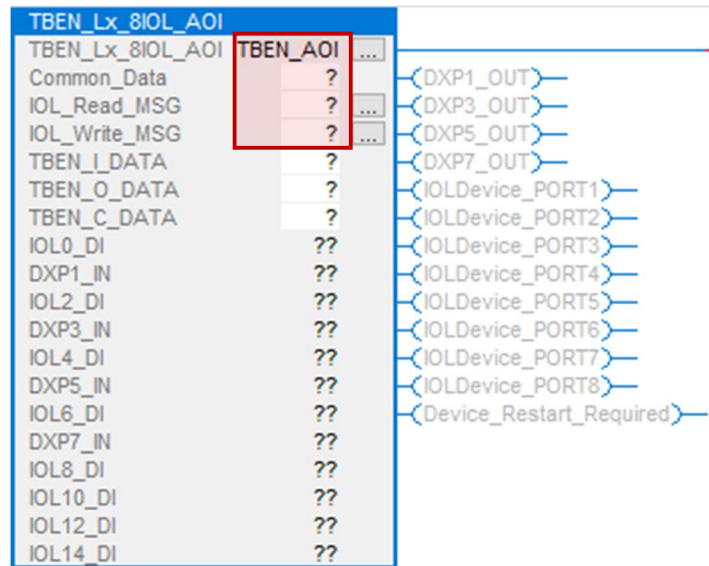

Figure 3.2 – Creating an instance of the AOI titled "TBEN_AOI"
- To begin configuring the AOI, all of the Data types must be instantiated. To do this, enter a desired name into the blank fields containing a "?" Figure 3.2 shows an example.